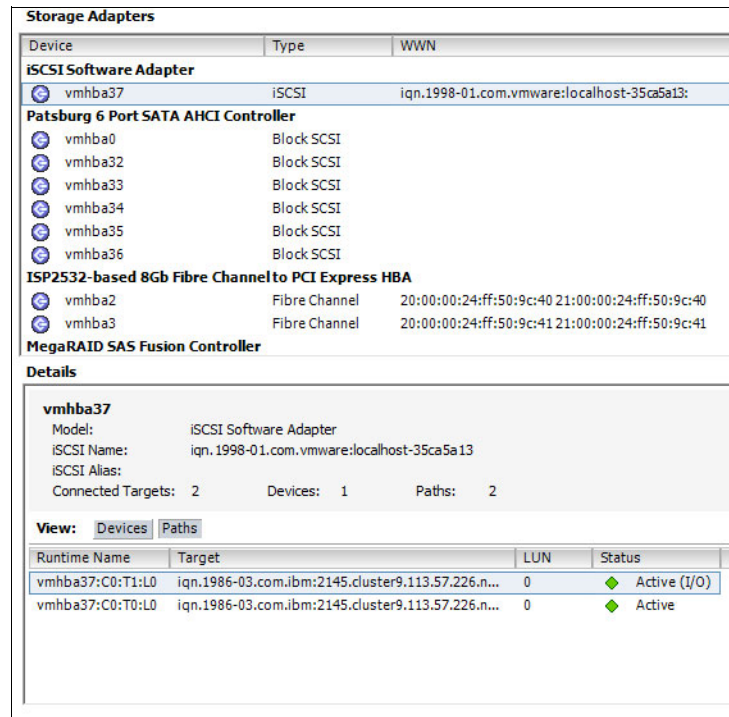

Figure 7-52 Storage Adapters
9. Close the Initiator Properties window and click **Rescan** to verify that multiple paths are available for iSCSI LUNs. Figure 7-52 shows a device with multiple paths.